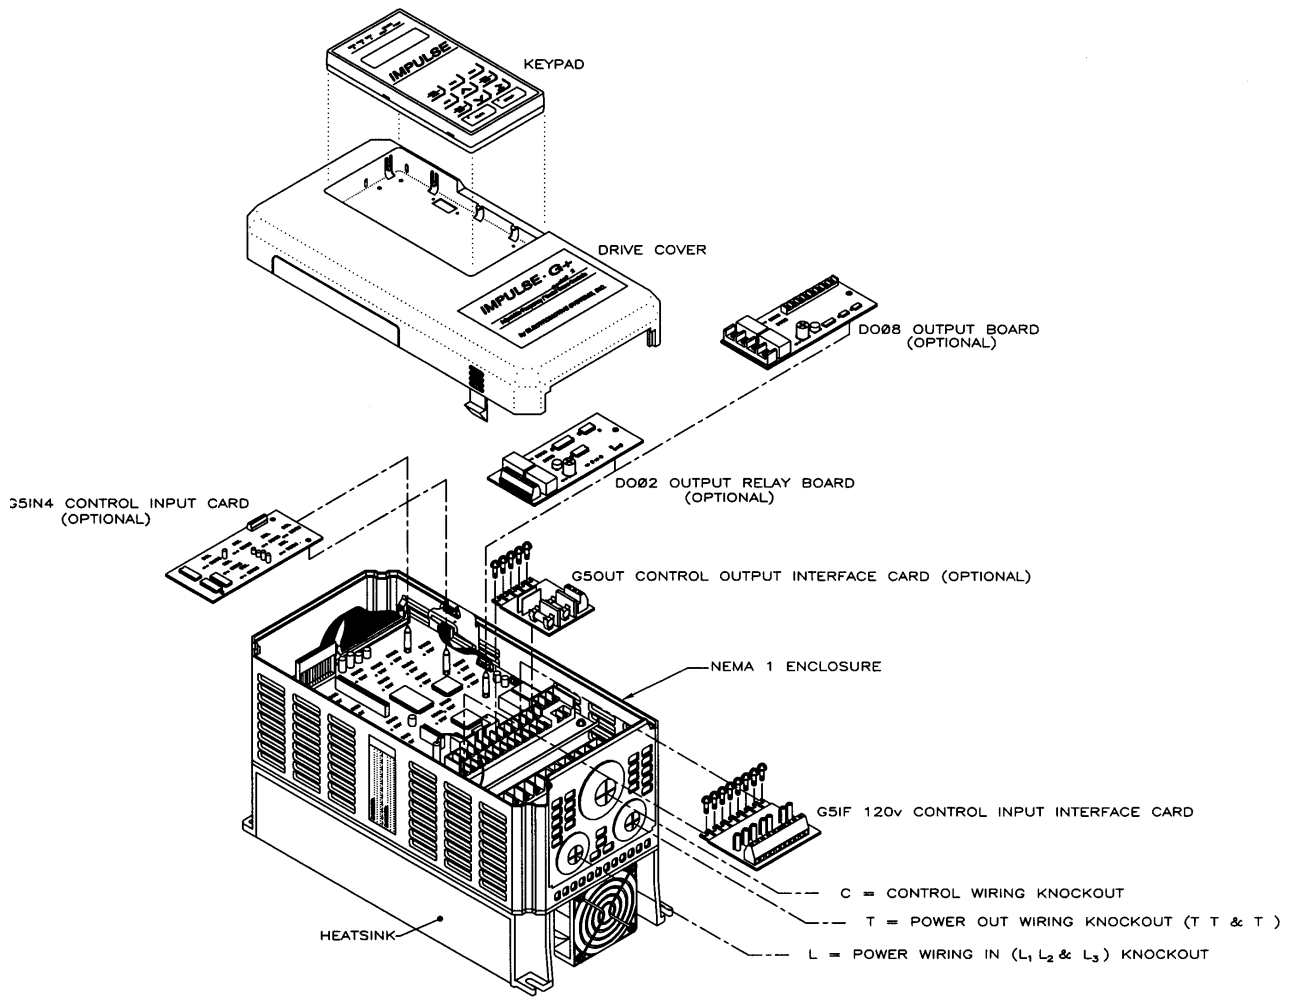

Figure 2-1: IMPULSE•G+ Series 2 Components Diagram Installing the Drive
2. Review Figure 2-1: “IMPULSE•G+ Series 2 Components Diagram” on page 2-5 and Figure 3-3: “IMPULSE•G+ Series 2 Terminal Diagram” on page 8.